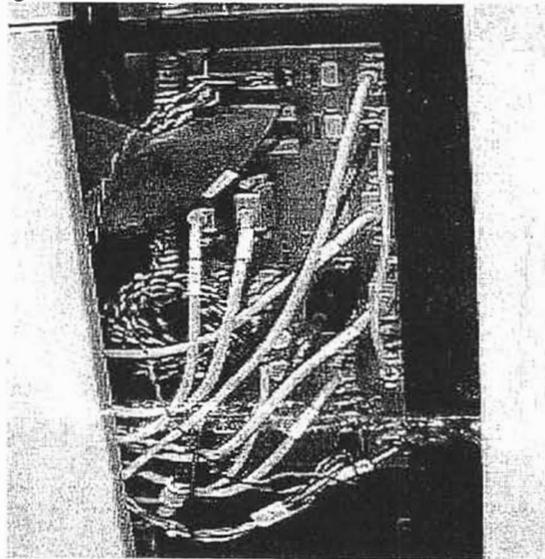

FIGURE 1.2.4A: Cables exiting side of E-Box
2. Find the **Monitor** cable on the side of the E-Box. See figure 1.2.4A for the general location of the monitor cable. Connect this cable directly to the VGA card in the card cage.
- Should results be inconclusive after step 3, call Veeco Field Service at (805) 963-4431.